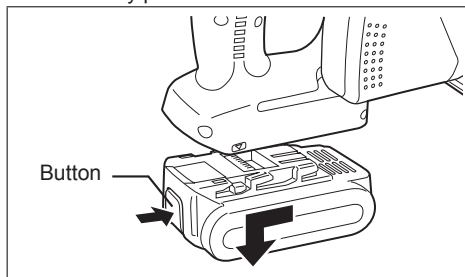

Fig. 3
2. To remove the battery pack (See Fig. 3)